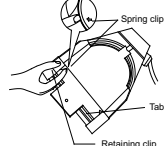

Figure 4
1. Position the fixture with the front of the unit (the lens side) facing you, and tilted slightly (Figure 4).
5. Press the spring clip with your finger to release the lens (Figure 4).